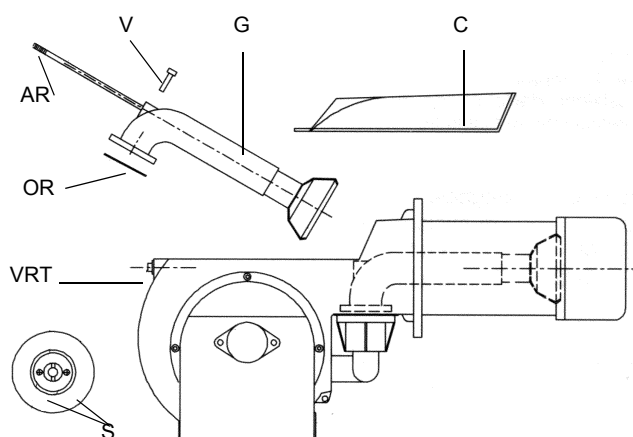

Fig. 38
- Remove, check and clean the combustion head (see Fig. 38)